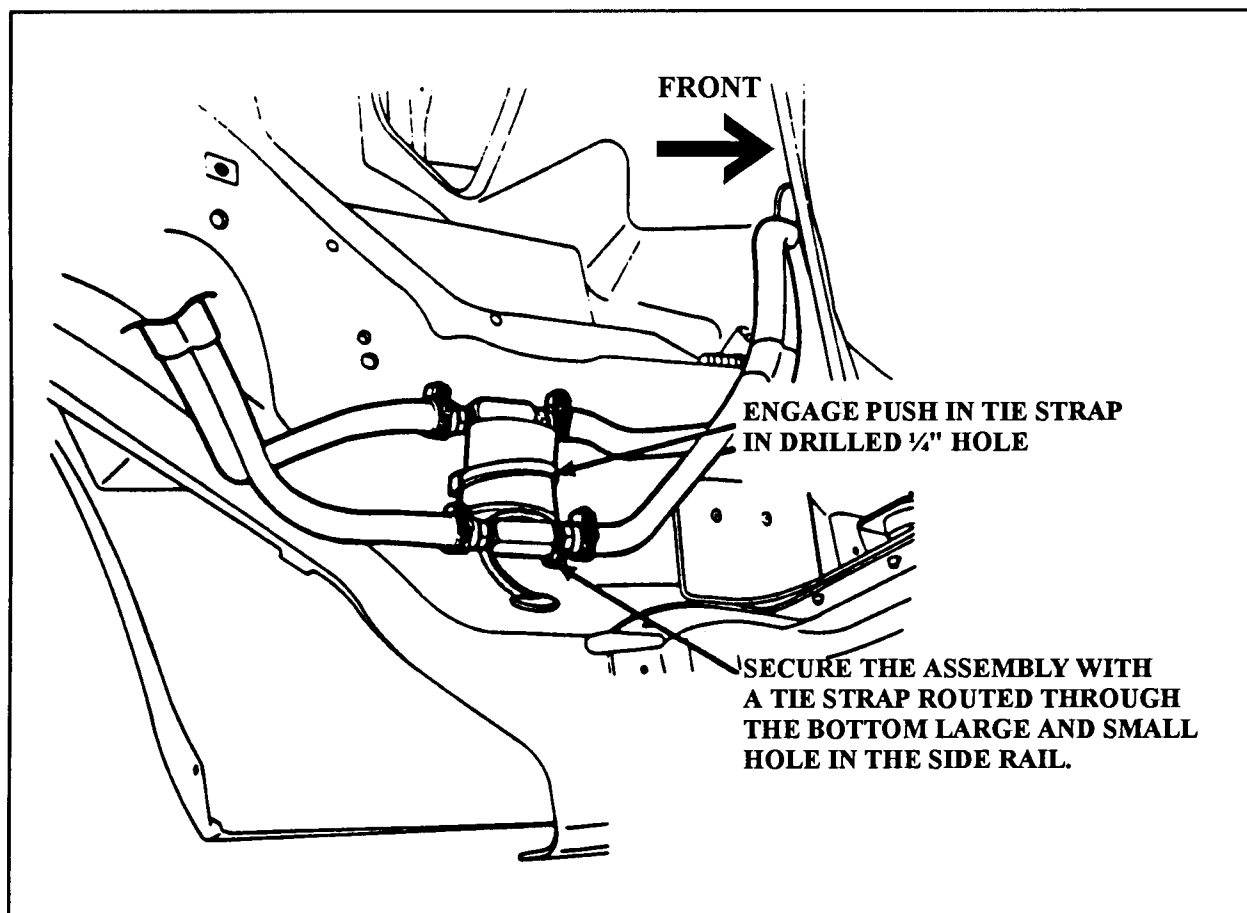

Figure 48
7. Cut the supplied foam tube and wrap it around the bypass valve (Figure 48).
8. Tighten the supplied "Push-in" tie strap around the foam tubing and cut off the excess strap (See Figure 48).
9. Engage the "Push-in" tie strap into the drilled 1/4 inch hole (See Figure 48).
10. The bypass valve assembly **MUST** be positioned vertically (See Figure 48).
12. Install the other supplied tie strap to secure the bypass valve assembly to the frame rail, as shown in Figure 48, and cut off excess tie strap.